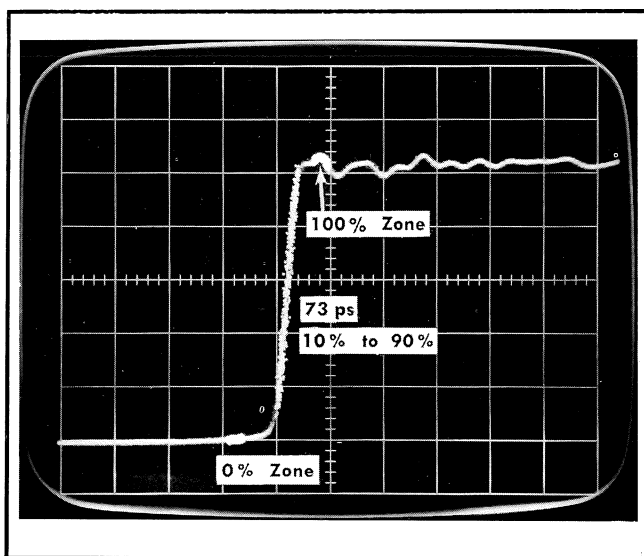

Fig. 1. Risetime Measurement display.
c. Obtain a step display of the signal fed to Channel A. Use the Type 3T6 front panel Delay controls (15 ns minimum) to position the pulse rise as in Fig. 1.
d. Once the display is obtained, position it and the digital unit 0% and 100% zones as shown in Fig. 1. Read